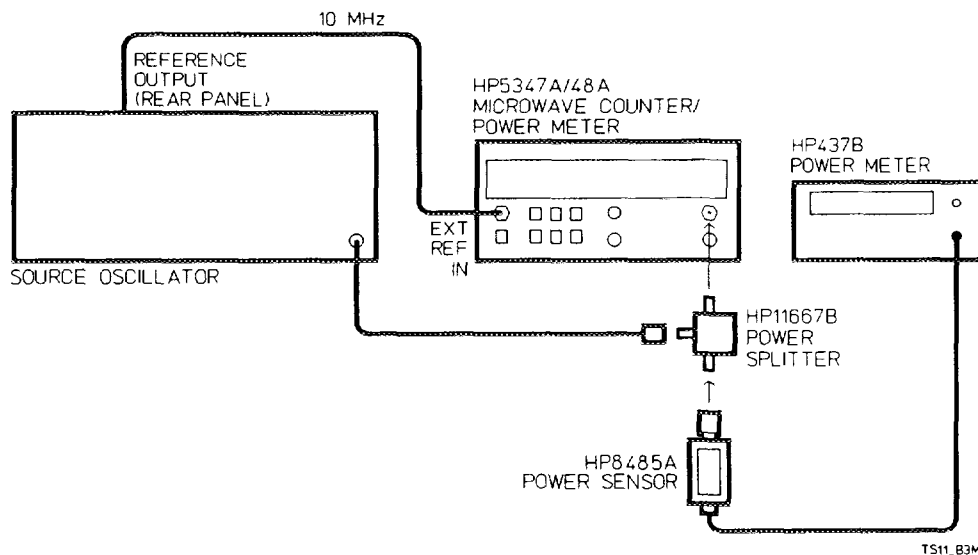
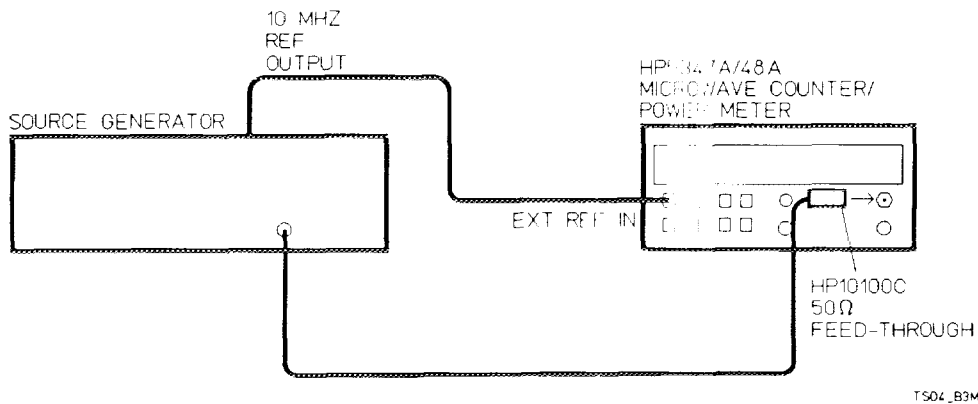

Figure 4-5. INPUT 2, 50 MHz-525 MHz Test Setup
Figure 4-6. INPUT 2, 10 Hz-10 MHz Test Setup
Description: This test is in two parts to check both the high frequency measuring capability of the 50 Ω input impedance and the low frequency measuring capability of the 1 M Ω input impedance of INPUT 2. In Part I, the HP 5347A/48A is set to the 10 MHz-525 MHz range, 50 Ω impedance, and a 25 mV rms (-19.3 dBm) signal is applied to INPUT 2. The source oscillator is set to selected frequencies and the HP 5347A/48A is checked for proper counting. Next, the HP 5347A/48A 1M Ω impedance for the lower frequency range is checked. Since the same test setup in *Figure 4-5* with the addition of a 50 Ω feedthrough is used to perform the 80 MHz check, the 80 MHz check is performed before the 10Hz-50MHz check. A 25 mV rms (-19.3 dBm) 80 MHz signal is applied to INPUT 2 through a 50 Ω feedthrough, and the HP 5347A/48A is checked for proper counting. In Part II, the test setup is changed to *Figure 4-6* to test the 10 Hz-50 MHz range.
1. Connect the equipment as shown in *Figure 4-5*.
1. Using the test setup in *Figure 4-5*, connect the HP 11667B to INPUT 2 of the HP 5347A/48A via a 50 Ω feedthrough (HP 10100C).
1. Connect the equipment as shown in *Figure 4-6*.